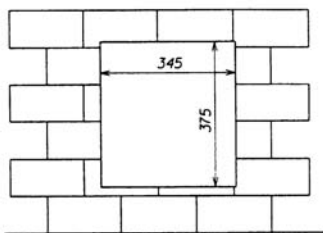
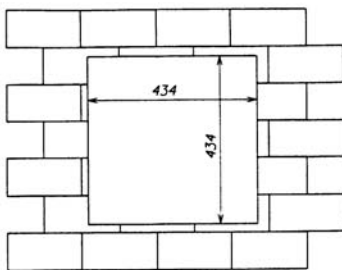

Fig. 1a WX9
Fig. 1b WX12
3. Mark the outline of the hole on the wall as shown in Fig. 1a and Fig. 1b. If core drill equipment is available: